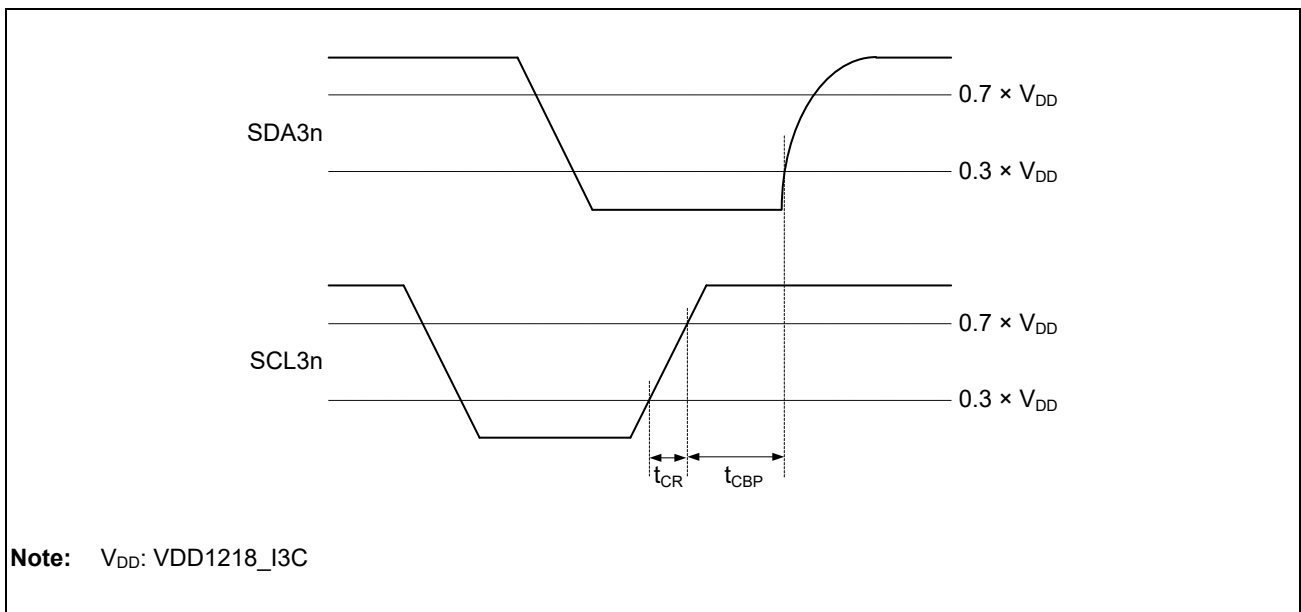

Figure 3.5-41 I3C STOP Condition Timing
| Clock before STOP (P) condition | t_{CBP} | $t_{CASmin}/2$ | — | seconds | Figure 3.5-41 | — | |